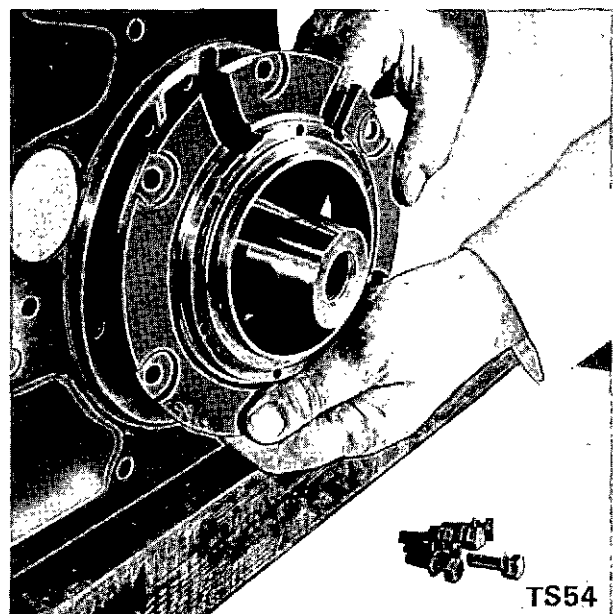

Fig. 104 Removing Alternator Adaptor
The main bearing housing is secured to the crankcase at the flywheel end. The housing includes an oil drain hole which must be located at the bottom when refitting, an oil seal fitted to the centre bore, and on the side of the housing an 'O' ring provides a seal between the oil drilling in the crankcase and the flywheel end main bearing. On engines fitted with charging equipment the stator is secured to the main bearing housing with cheese headed screws which are fitted through the alternator adaptor (Fig. 104). Shims of metal and paper material are fitted between the main bearing housing and the crankcase to provide crankshaft end float adjustment (Fig. 116).
- (a) Remove six bolts securing main bearing housing and remove alternator adaptor (Fig. 104).